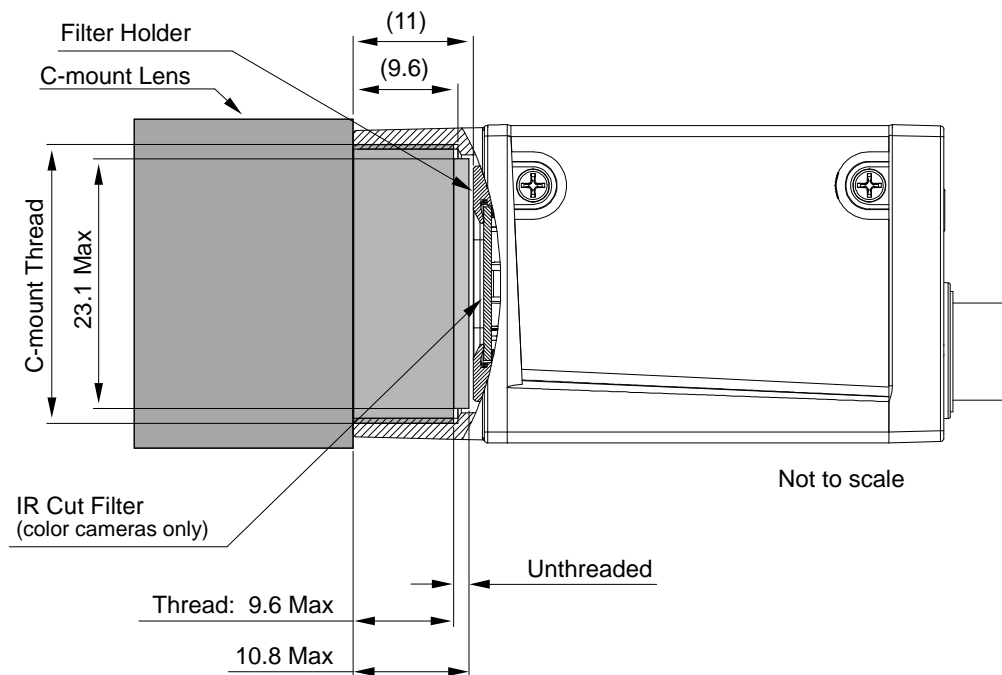

Fig. 36: Maximum Lens Thread Length (Dimensions in mm) for Cameras with the C-mount Lens Adapter
- Camera with C-mount lens adapter (see Figure 36):